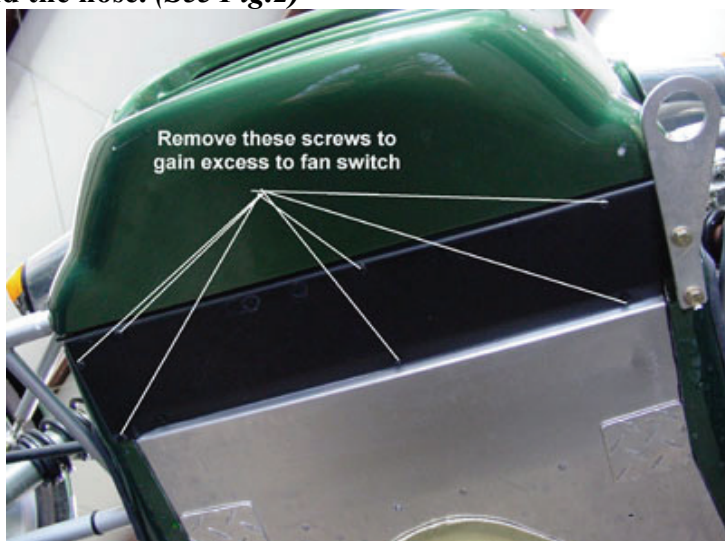

Fig.2
3. **Fan Switch** Get the car jacked up and secure on jack stands or a lift. Remove the bottom excess panel just behind the nose. (See Fig.2)